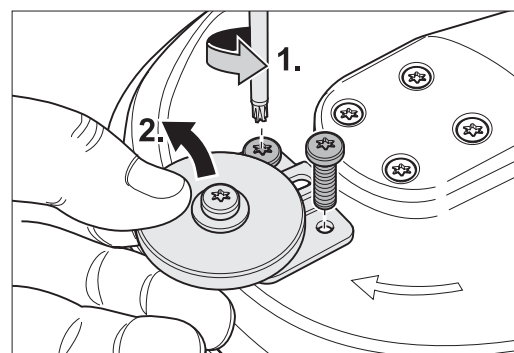

Fig. 54 Remove the fixing screws and take off the complete wall-protecting roller.
- 3 Remove the two screws attaching the holder of the wall-protecting roller to the attachment and remove the complete wall-protecting holder (Fig. 54).